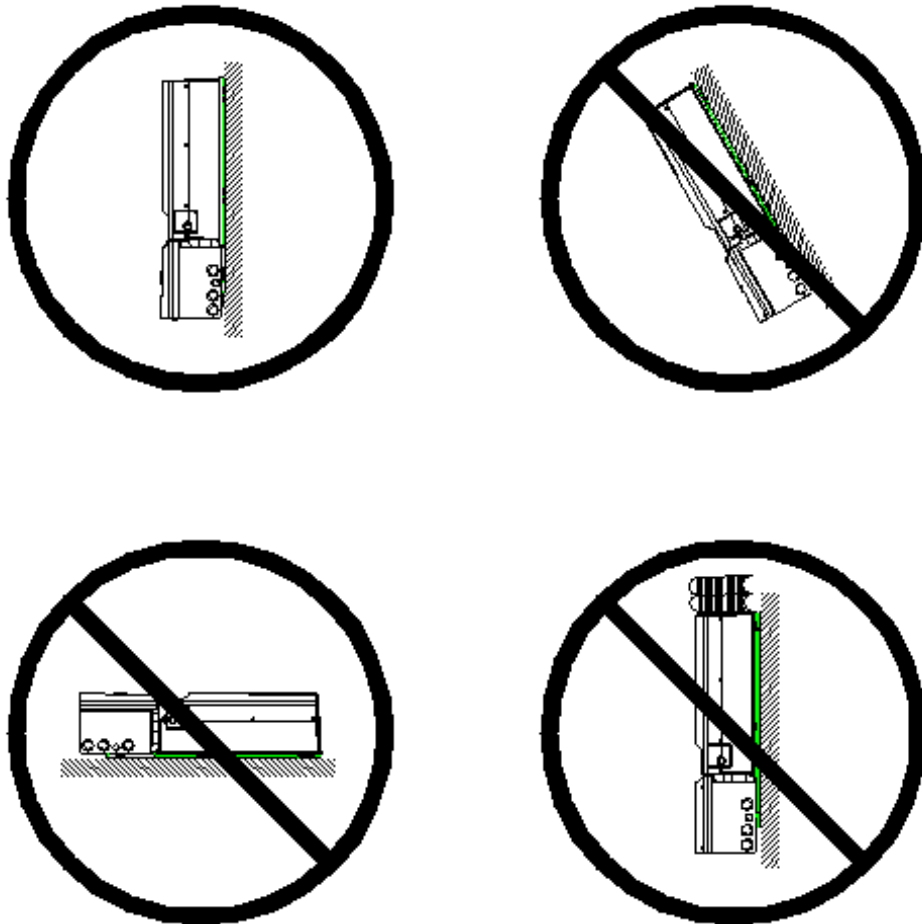

Figure 5.4.3: Installing Position and Location
- i) A rectangular-shaped mounting bracket that shipped with the PV Inverter is able to be used with all types of walls such as stone wall, brick wall or wooden wall, but it is more important to ensure the wall that is selected will be able handle with the weight of PV Inverter, specifically the installations that are wooden walls. Figure 5.4.3 described the required dimension of drilling locations: